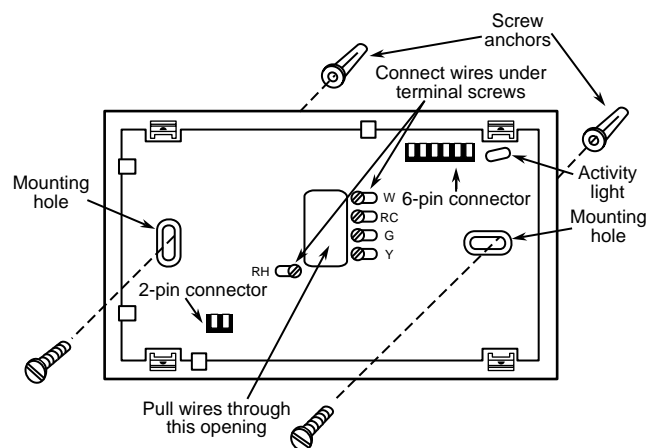

Figure 3. Subbase
3. Connect wires beneath terminal screws on subbase using appropriate wiring schematic (see figs. 3 through 8).
6. Fasten subbase loosely to wall, as shown in fig. 3, using two mounting screws. Place a level against bottom of subbase, adjust until level, and then tighten screws. (Leveling is for appearance only and will not affect thermostat operation.) If you are using existing mounting holes, or if holes drilled are too large and do not allow you to tighten subbase snugly, use plastic screw anchors to secure subbase.